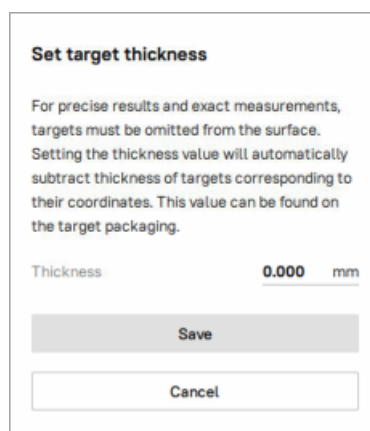

Figure 65: Target thickness compensation dialog.
5. Set a target thickness value in open dialog. This value will be automatically subtracted from the surface for precise result. You can find the set value in the *Properties* panel of the *Workspace* (See Figure 65).